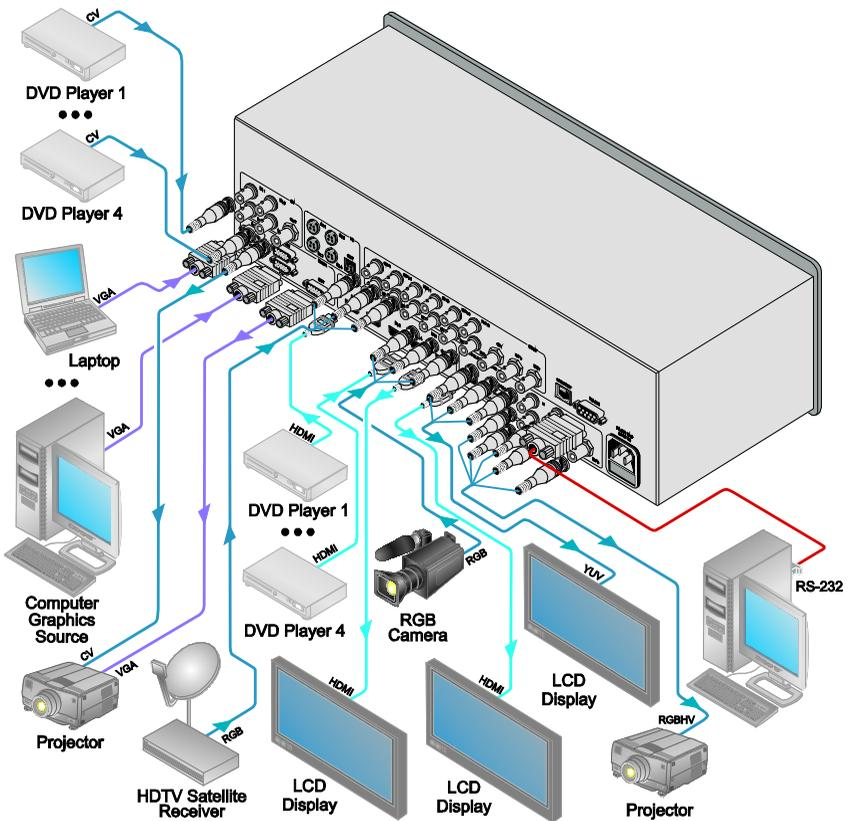

Figure 3: Connecting the VP-725N Presentation Switcher / Scaler
To connect the **VP-725N**, connect the following¹ to the rear panel, as the example in Figure 3 illustrates:
- Up to four s-Video sources to the 4-pin input connectors (not illustrated in Figure 3)
- Connect the UXGA connector to the UXGA acceptor, for example, a monitor (not illustrated in Figure 3)
6. Connect the power cord¹ (not illustrated in Figure 3).